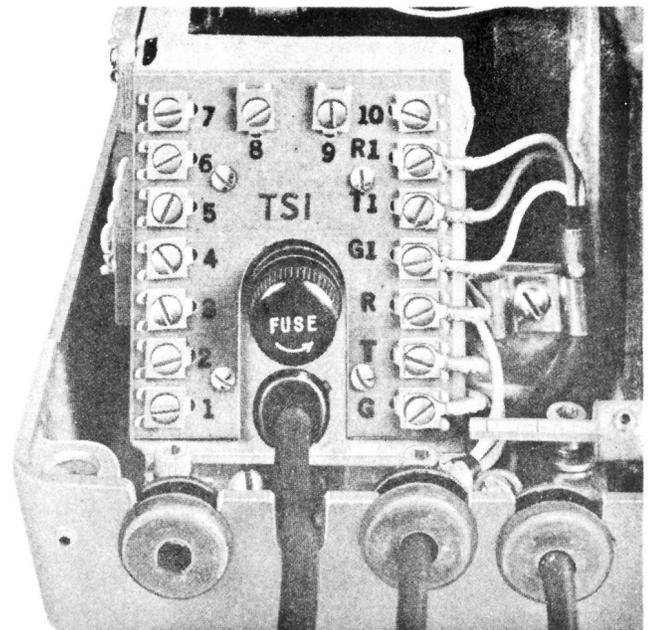

Fig. 9 - AC Fuse Holder and TS1
1.12 Fig. 9 identifies the ac fuse holder and TS1.